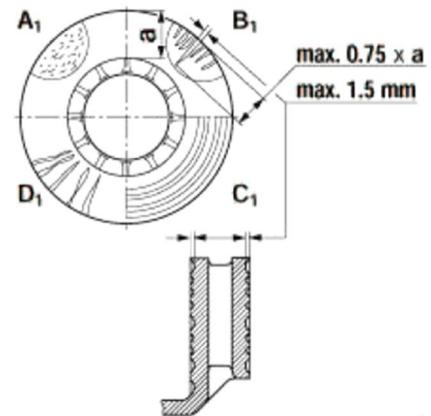

Figure 3-25
b) Checking the roughness of the brake disc surface (Figure 3-25).